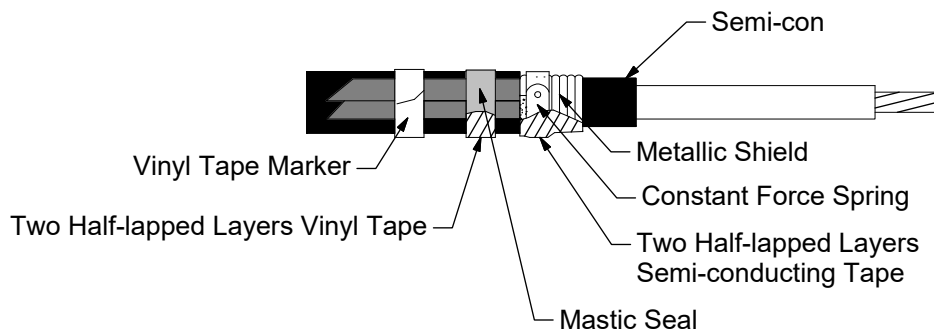

Figure 5A
6. Wrap two half-lapped layers of vinyl tape around the mastic seal. Apply two half-lapped layers of semi-conducting tape over the constant force spring, and exposed metallic shield. Do not cover the exposed semi-con insulation shield. See Figure 5A.